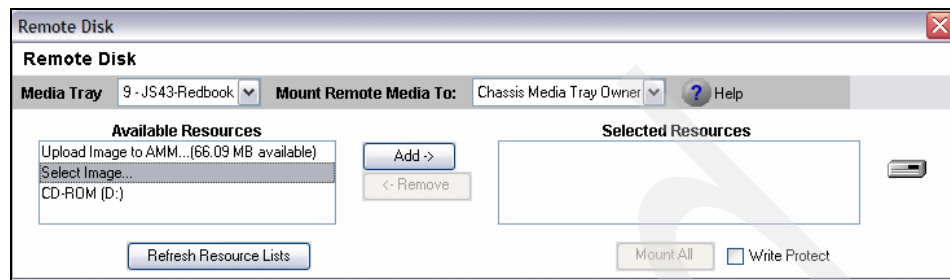

Figure 7-85 Select image option
6. The Remote Disk window opens. Select either or both of the following options: **CD ROM** or **Select Image**. Figure 7-85 provides an example of the Select Image option.